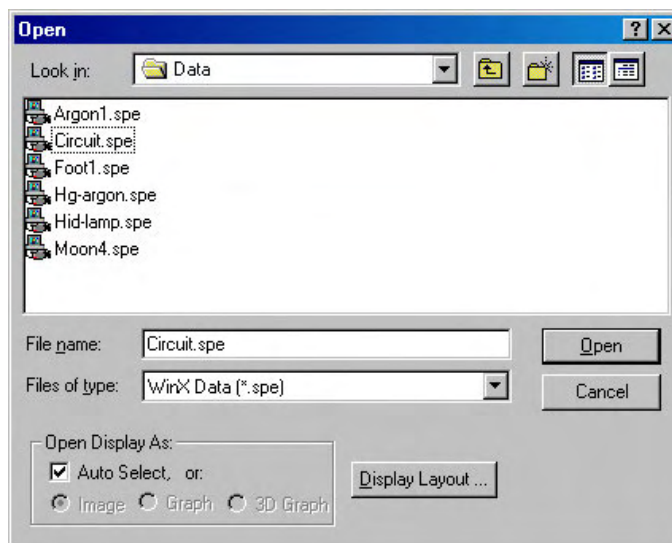

Figure 46. Open dialog box
1. From the File menu, select **Open**. The **Open** dialog box (Figure 46) will appear, allowing you to select the image to be opened. The **Look-In** field provides a browser function so you can easily find the directory where the images. By default, the data directory will be a subdirectory of the directory where WinView/32 was installed. Subdirectory names and the filenames of all files of the specified type (the WinView/32 data type is *.spe) in the current directory are listed in the box below the directory name.